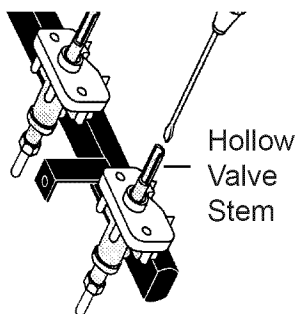

Figure 19
- e. Insert a thin-bladed screwdriver into the hollow valve stem and engage the slotted screw inside. Flame size can be increased or decreased with the turn of screw. Turn counterclockwise to increase flame size. Turn clockwise to decrease flame size (Figure 19). Adjust flame until you can quickly turn knob from LITE to lowest position without extinguishing the flame. Flame should be as small as possible without extinguishing.